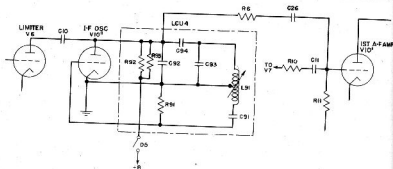

Fig. 31. Radio Receiver BC-683-A: Functional Diagram of I-f Oscillator
i. I-f Oscillator. A functional diagram of the intermediate-frequency oscillator is shown in Fig. 31.